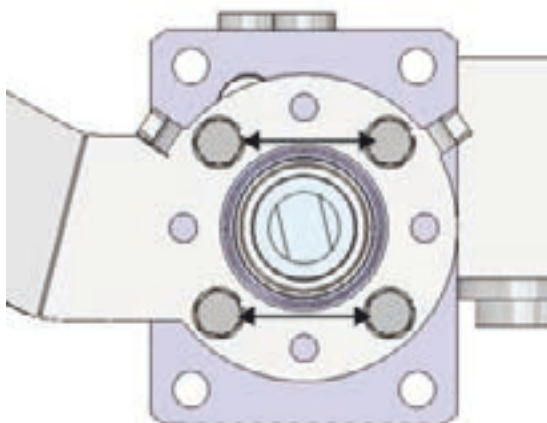

Figure 42. Support plate fastening screws
3. Open the fastening screws (four in total, figure 42) that attach the support plate to the cylinder.